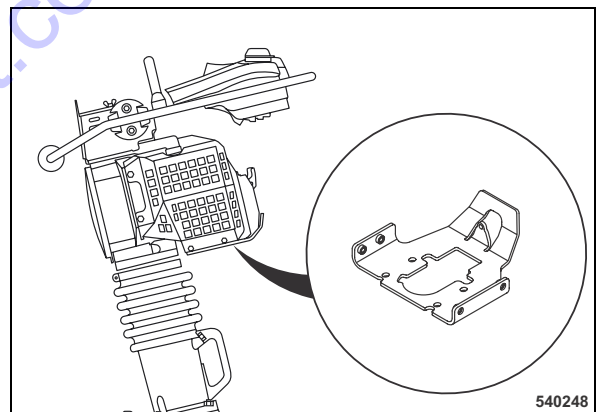

Fig. 46
- Remove the top engine cover (Fig. 46).